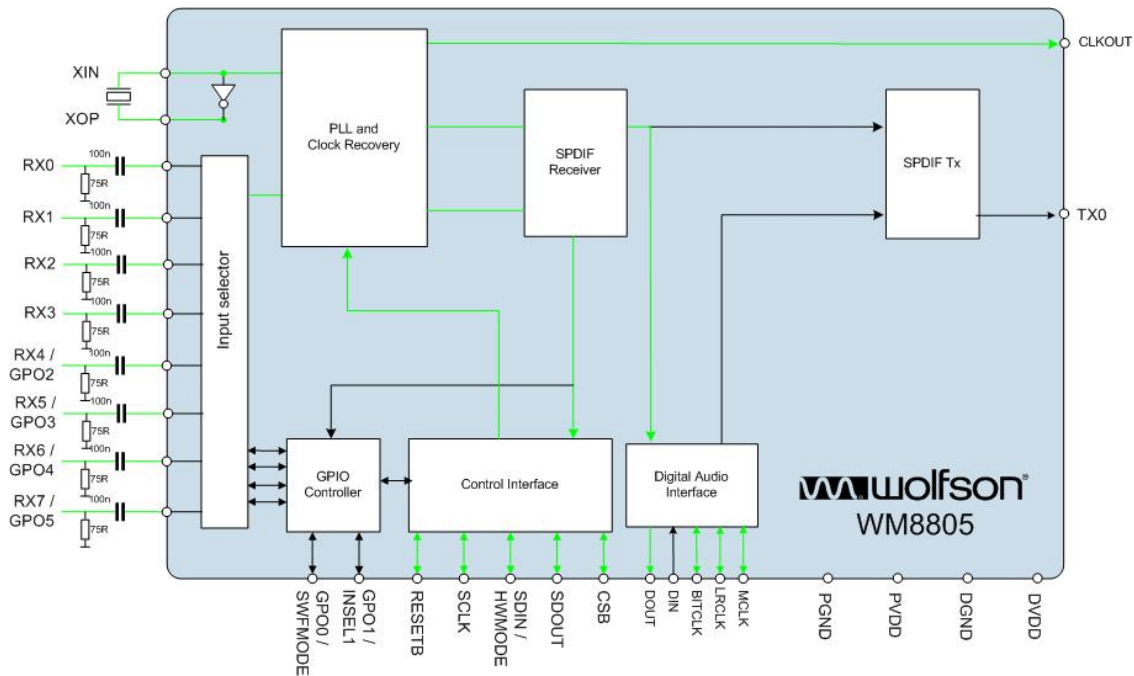

Figure 1 RX0 Input Path to Audio Interface Block Diagram
- Figure 1 illustrates the data path.